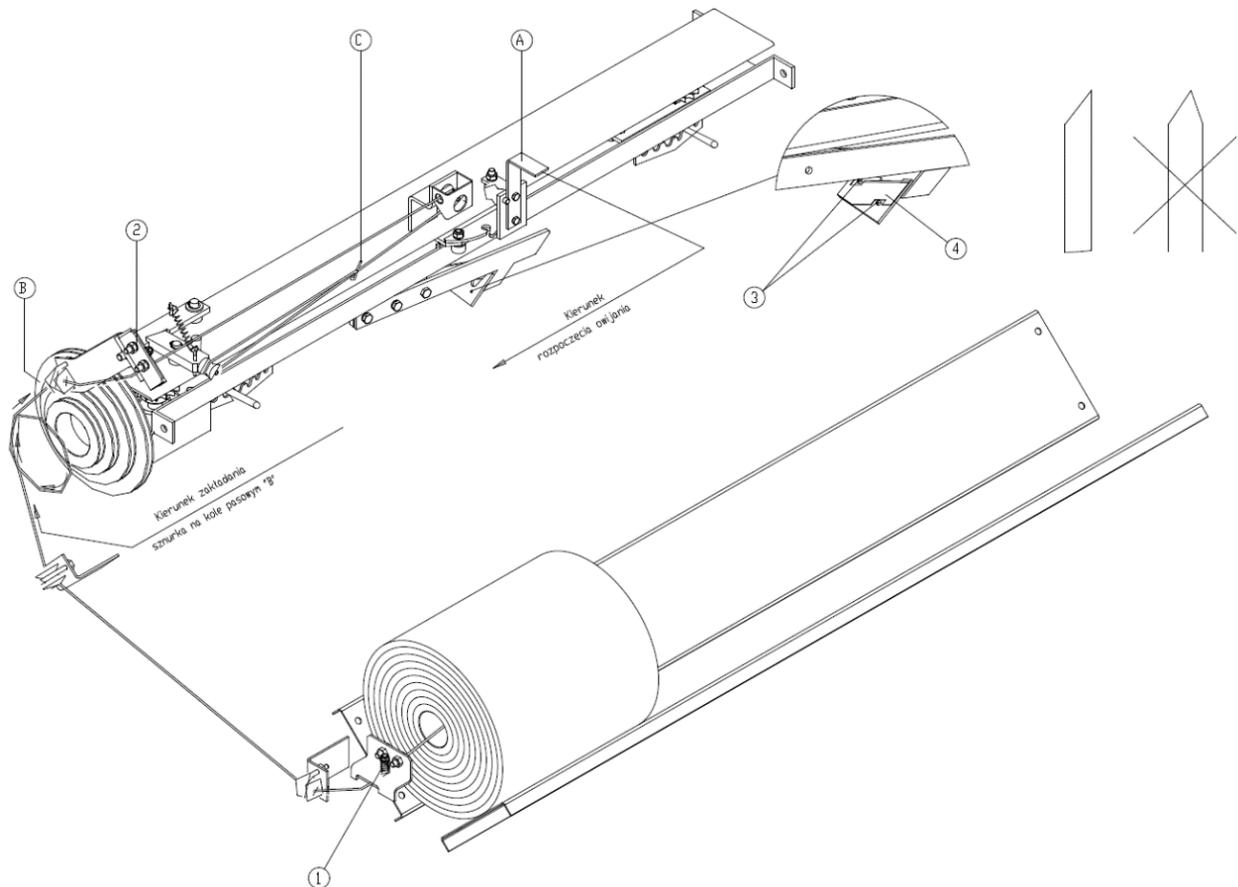

Figure 15 The twine path
The binding density rises along with the rise of the wheel B diameter (Fig. 15). The highest binding density is achieved by running the twine with the wheel with the greatest diameter.
Clean the inside of the twine feeder at the place shown in Fig. 15 by removing dust and blowing it with low-pressure air after lifting the twine-feeder cover. Direct the dirt towards the outlet.
You can sharpen the blade as shown in Fig. 15. To dismantle the twine-cutting blade, loosen the bolts (3). After sharpening, secure the blade with the bolts (3).